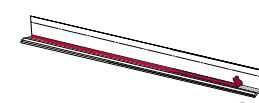

Figure G3
- Clean the top surfaces of the car and allow to dry. Remove the red backing tape from the underside of aluminium rails **Refer Figure G3**